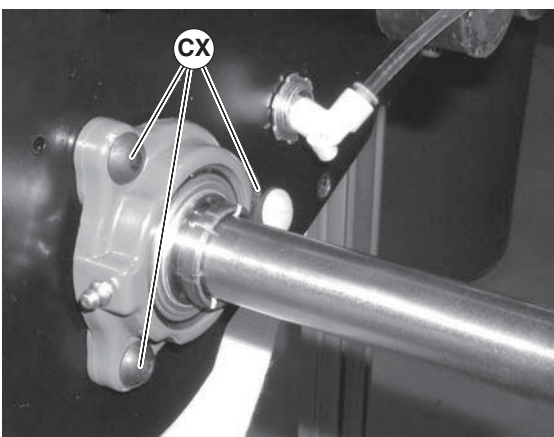

Figure 88
6. Tighten three (3) mounting screws (Figure 88, item CX) to 200 in-lbs (22.5 N-m).